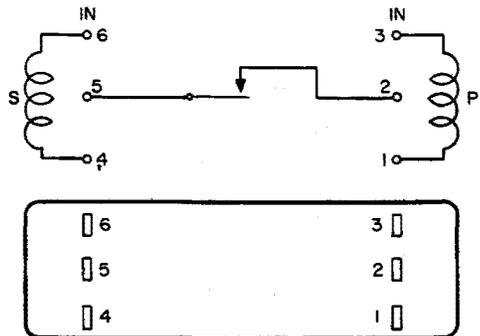

Fig. 80 - Winding and Spring Terminal Numbering - 327-Type Relay
2.85 As viewed from the rear, the winding and spring terminals are designated as shown in Fig. 80 through 82.